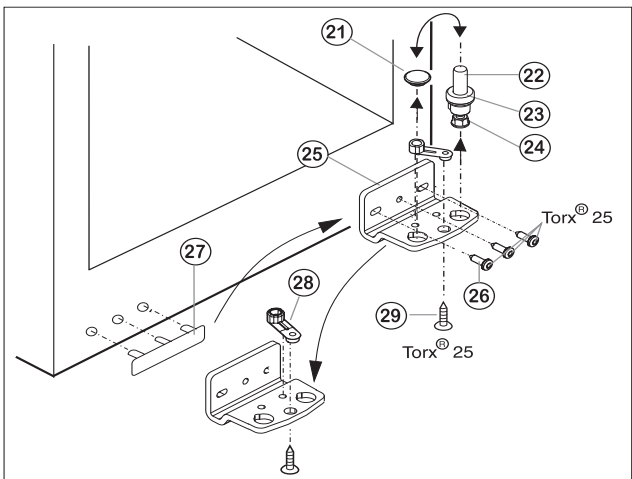

Fig.3
- Lift out the bearing pin Fig. 3 (22) together with washer Fig. 3 (23) and foot Fig. 3 (24).
- Lift off the stopper Fig. 3 (21).
- Unscrew Fig. 3 (26) the turn hinge Fig. 3 (25).
- Unscrew Fig. 3 (29) the bearing element Fig. 3 (28), transfer it to the opposite location hole of the turn hinge and screw it firmly into place.
- Carefully lift off the cover on the handle side Fig. 3 (27) and transfer it to the opposite side.
- Screw the turn hinge Fig. 3 (25) firmly into place on the new hinge side, possibly using a cordless screwdriver (with 4 Nm).
- Re-insert the stopper Fig. 3 (21) into the other hole.
- Re-insert the bearing pin Fig. 3 (22) together with washer and foot. In so doing, pay attention that the locating lug points backwards